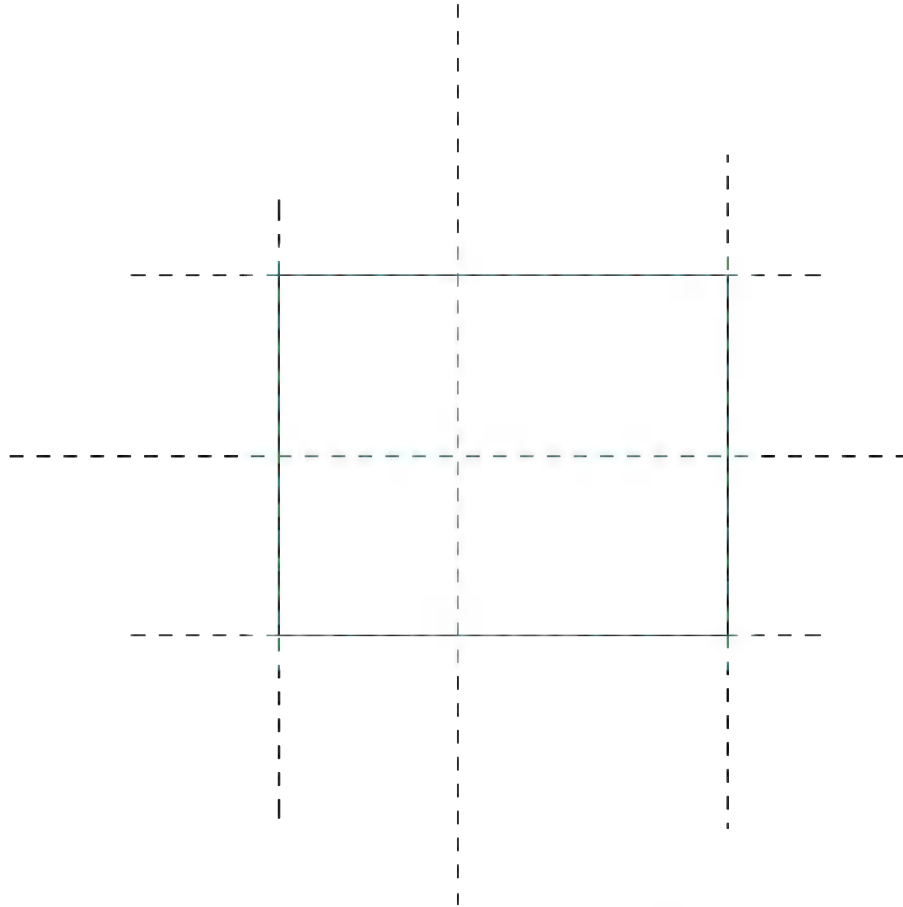

FIGURE 15-2.17 Right-hand reference plane repositioned
30. Select the *Reference Plane* on the right and use the **Move** tool to move it **1'-0"** more to the right (Figure 15-2.17).
31. Notice the 3D box moves with the *Reference Plane* (Figure 15-2.17).